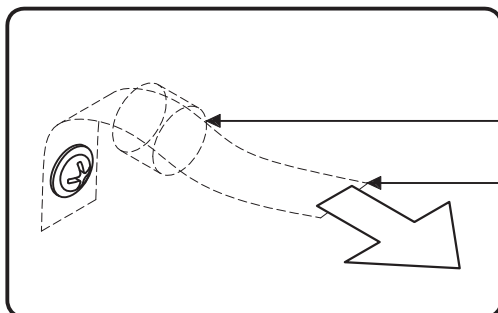

Figure 7
Move unit back into place and insert Tip-over Restraint into unit through hole in Back Panel (N). (See Figure 7)